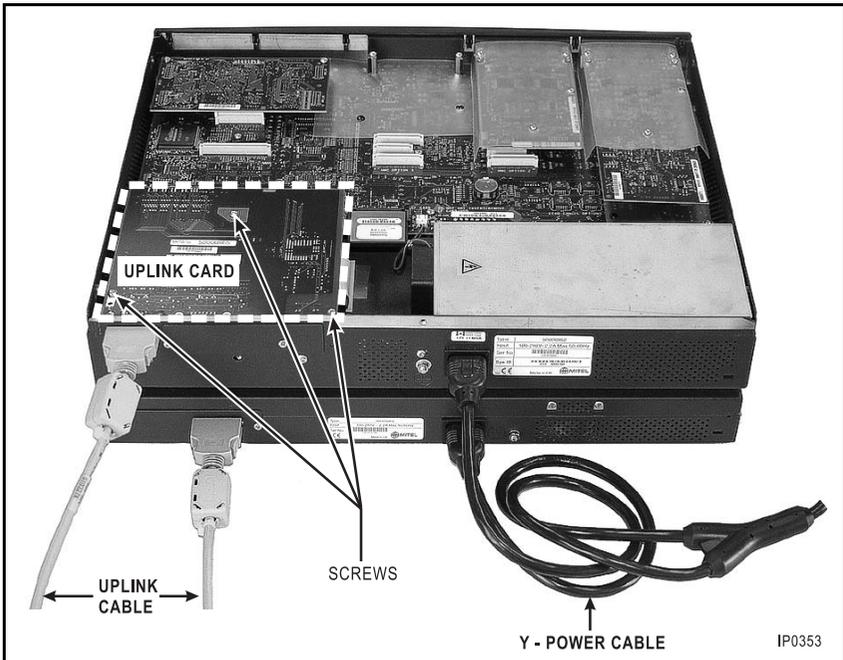

Figure 17: Installing the expansion unit
4. Install the Uplink card (see Figure 17) on the two standoffs.